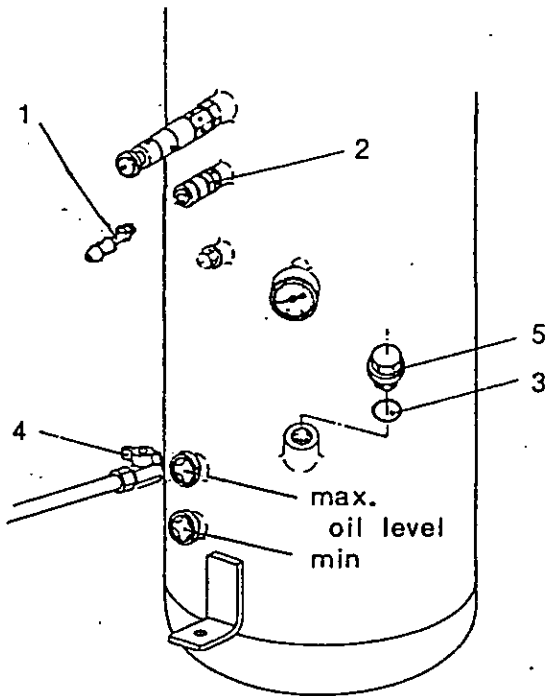
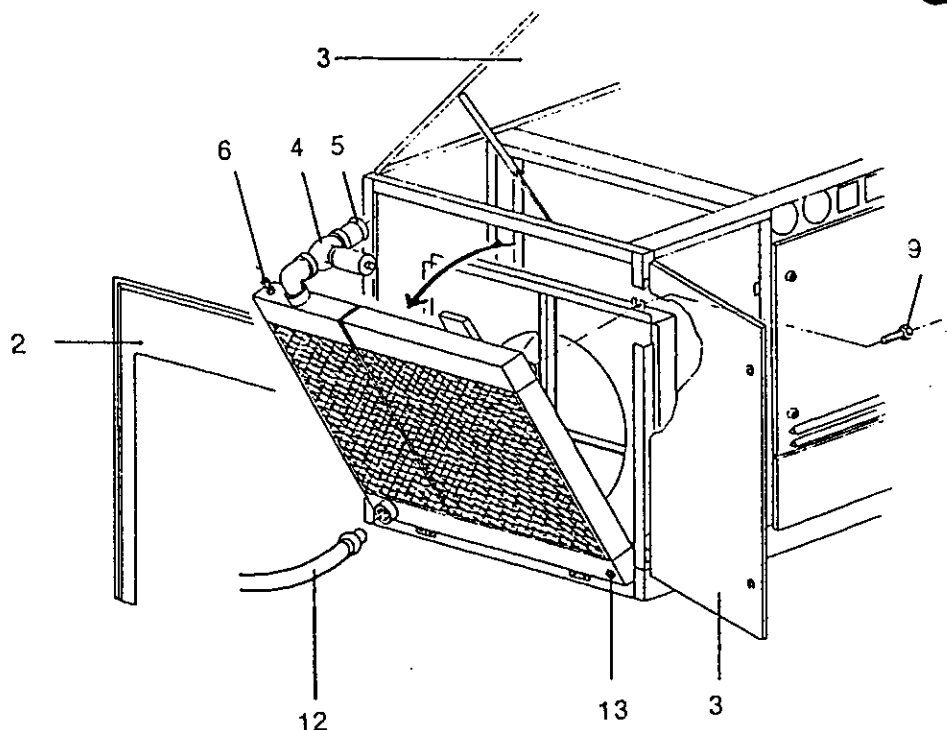

Figure 22
Figure 27
- Close shutoff valve (3).
- Hook hose (2) of other pressure source to socket (1) onto tank and pressure feed (the tank should have a pressure of approx. 30 psig).
- Slowly open drain valve (4, Figure 22) (the pressure remaining in the tank will cause the oil to flow).
- Close drain valve (4, Figure 22) and cooler drain plug (13, Figure 27).
- Open shutoff valve (3).
- After discharging the tank, slowly open the cooler drain plug (13, Figure 27) (the oil will drain without pressure).
- Open shutoff valve (3) at the tank cover.